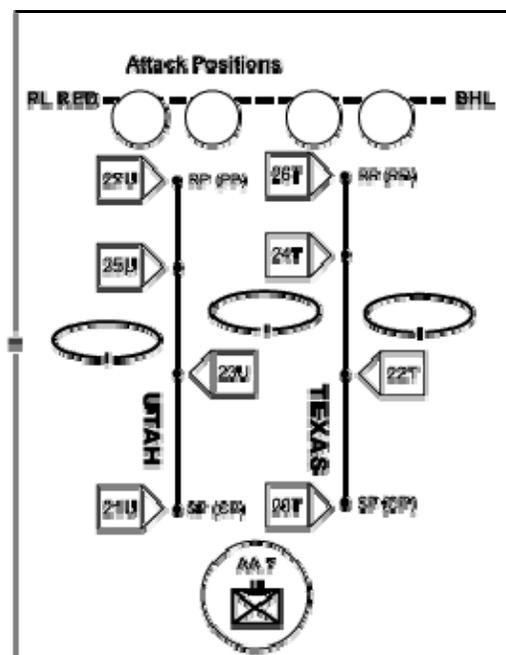

Figure 3-11. Control Measures for Forward Passage of Lines.
2. Control Measure SOPs. *See Figures 3-11 and 3-12.*
- b. Contact Point (CP) is the Start Point (SP). Passage Point (PP) is the Release Point (RP).
See Figure 3-11.